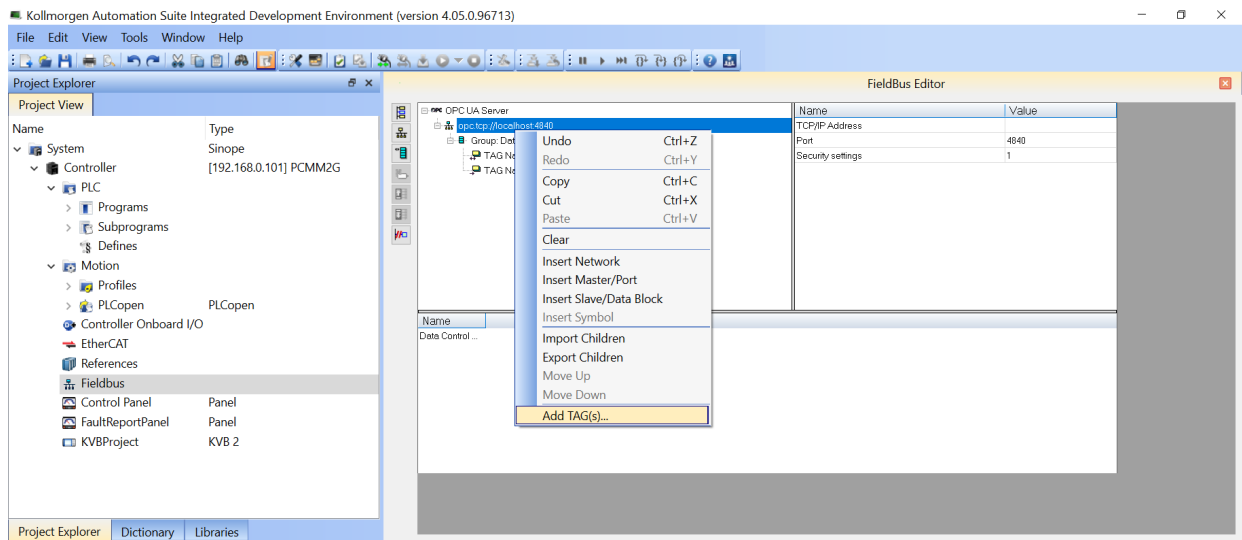

Figure 6-1: Add TAG(s) option
1. In the **OPC UA Server** tree, right-click a Master node and select the **Add TAG(s)** option. (Figure 6-1)